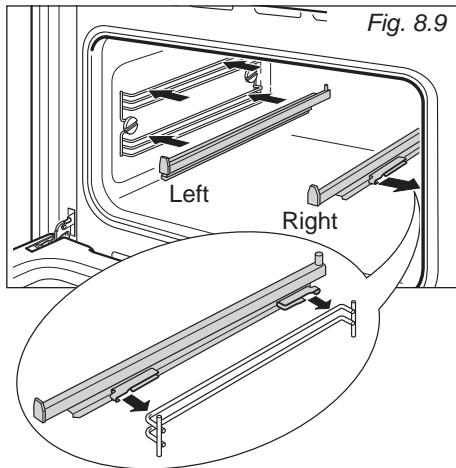

Fig. 8.9
- Fit the sliding shelf support onto the top wire of a rack and press (fig. 8.9). You will hear a click as the safety locks clip over the wire.